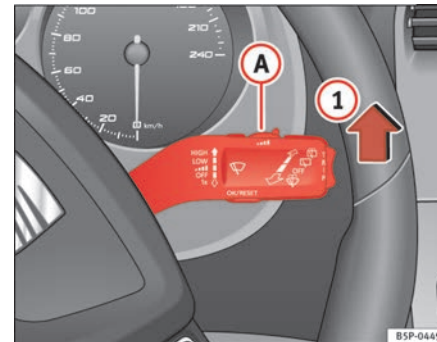

Fig. 83 Windscreen wiper lever
- Move the windscreen wiper lever into position ① ⇒ fig. 83.
- Move the control (A) to the left or right to set the sensitivity of the rain sensor. Control to the right: highly sensitive. Control to the left: less sensitive.